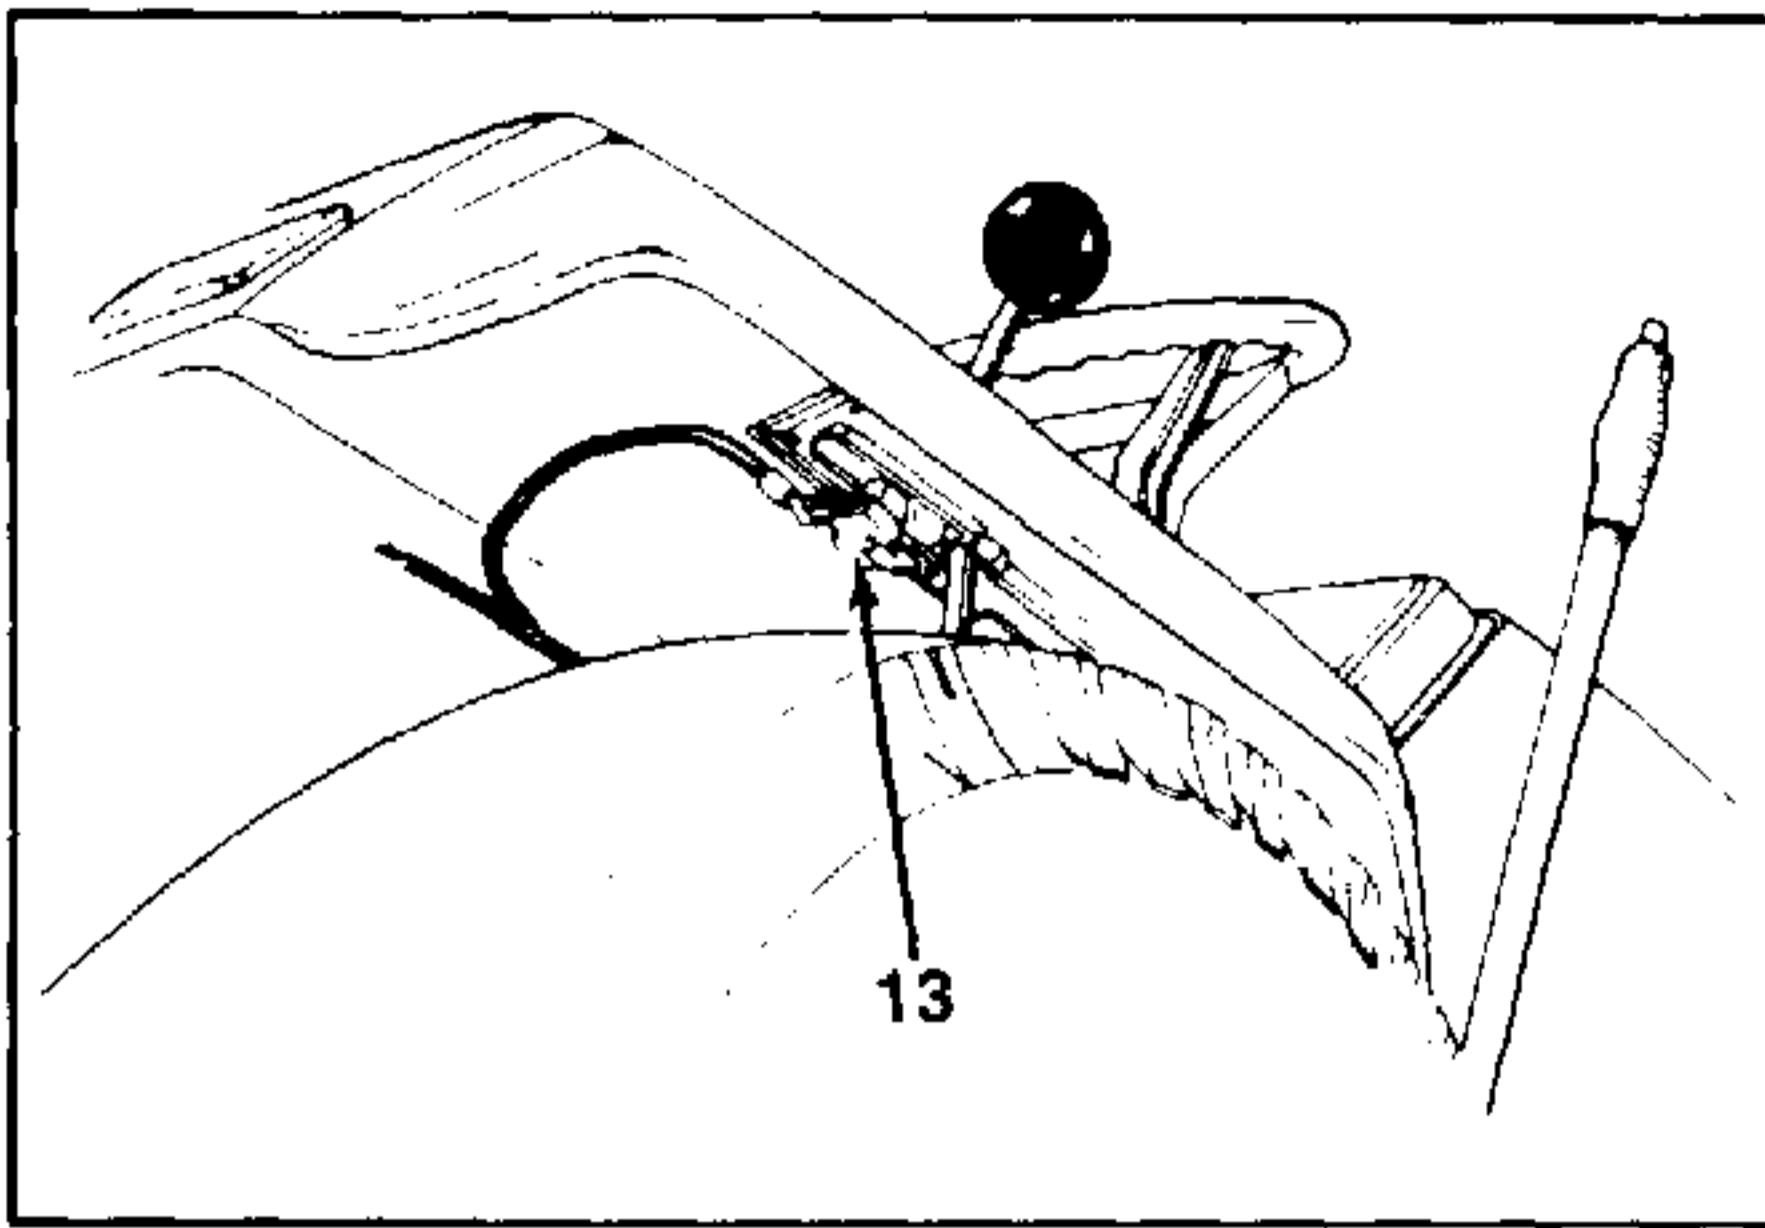

FIGURE 4.
7. With the fenders loose and raised, remove the neutral start switch (Ref. 13) and bracket located under the fender at the shift quadrant. See figure 4. Remove the fender assembly.